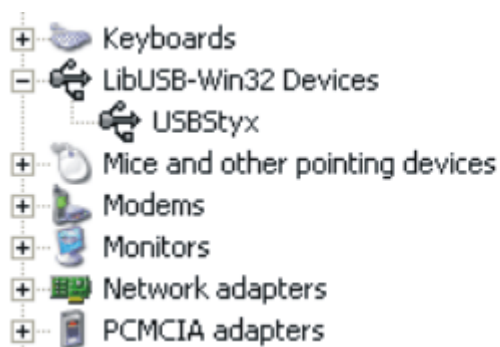

Figure 20. USBStyx Driver Verification Using Device Manager
6. You can verify the proper installation of the USBStyx driver using the Device Manager. Note that the first driver item, NI-VISA USB Devices, will disappear and a new item, LibUSB-Win32 Devices will appear, as Figure 20 shows.